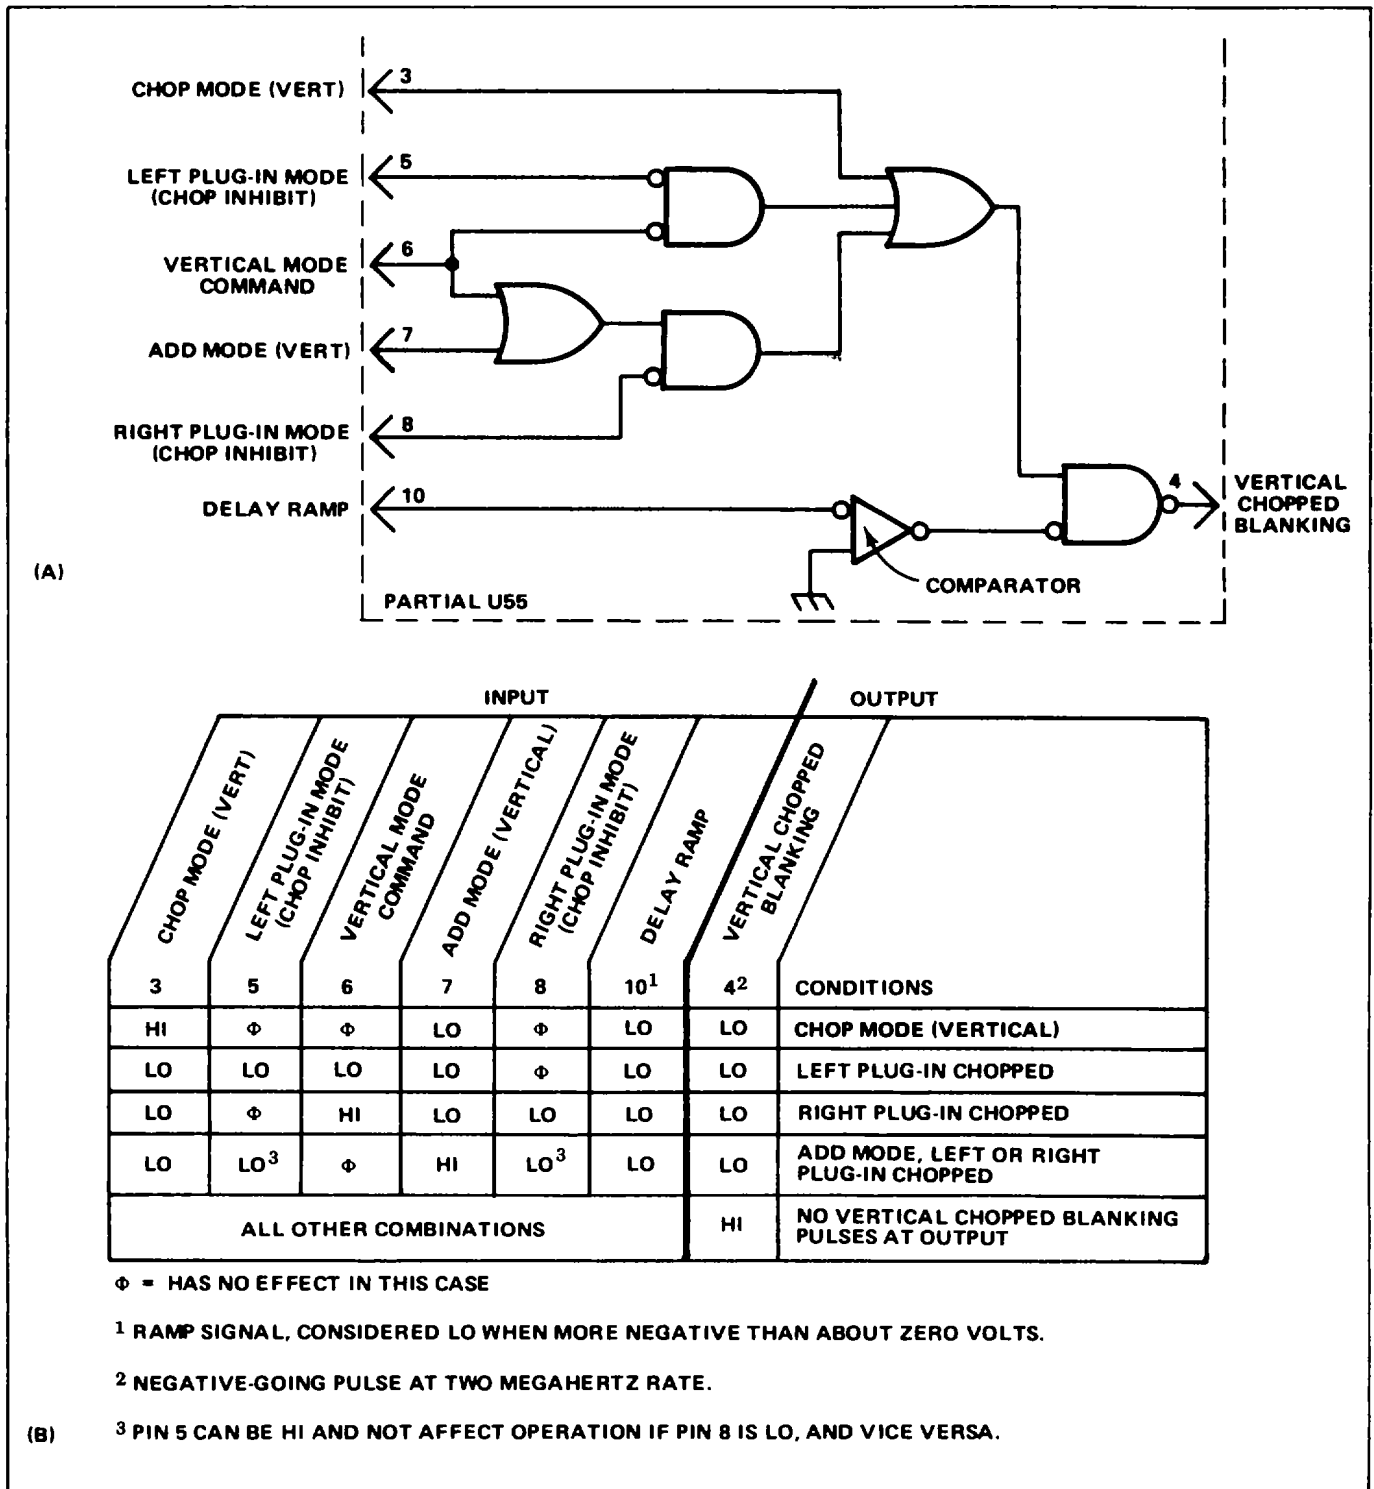

Figure 3-6. (A) Logic diagram for Vertical Chopped Blanking stage. (B) Table of input/output combinations for Vertical Chopped Blanking stage.
Fig.3-6A shows a logic diagram of the Vertical Chopped Blanking stage. Notice the comparator block on this diagram (one input connected to pin 10).The output of this comparator is determined by the relationship between the levels at its inputs. If pin 10 is more positive (HI) than the grounded input, the output is HI also; if it is more negative (LO), the output is LO. An input/output table for this stage is given in Fig.3-6.